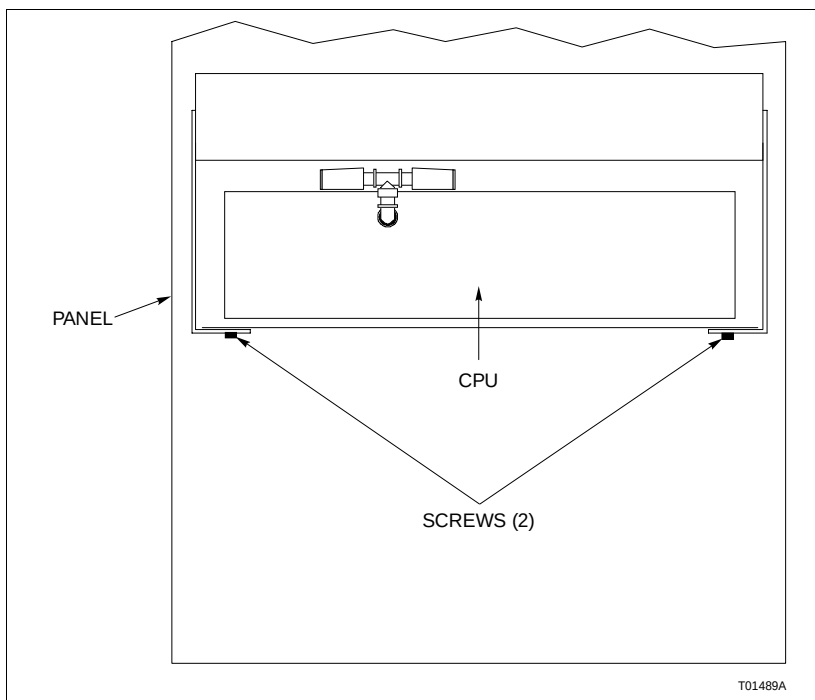

Figure PR27-4. Panel Mount Model CPU Removal
- ☐ 3. Remove the two screws that hold the CPU to the support bracket (Fig. PR27-4).